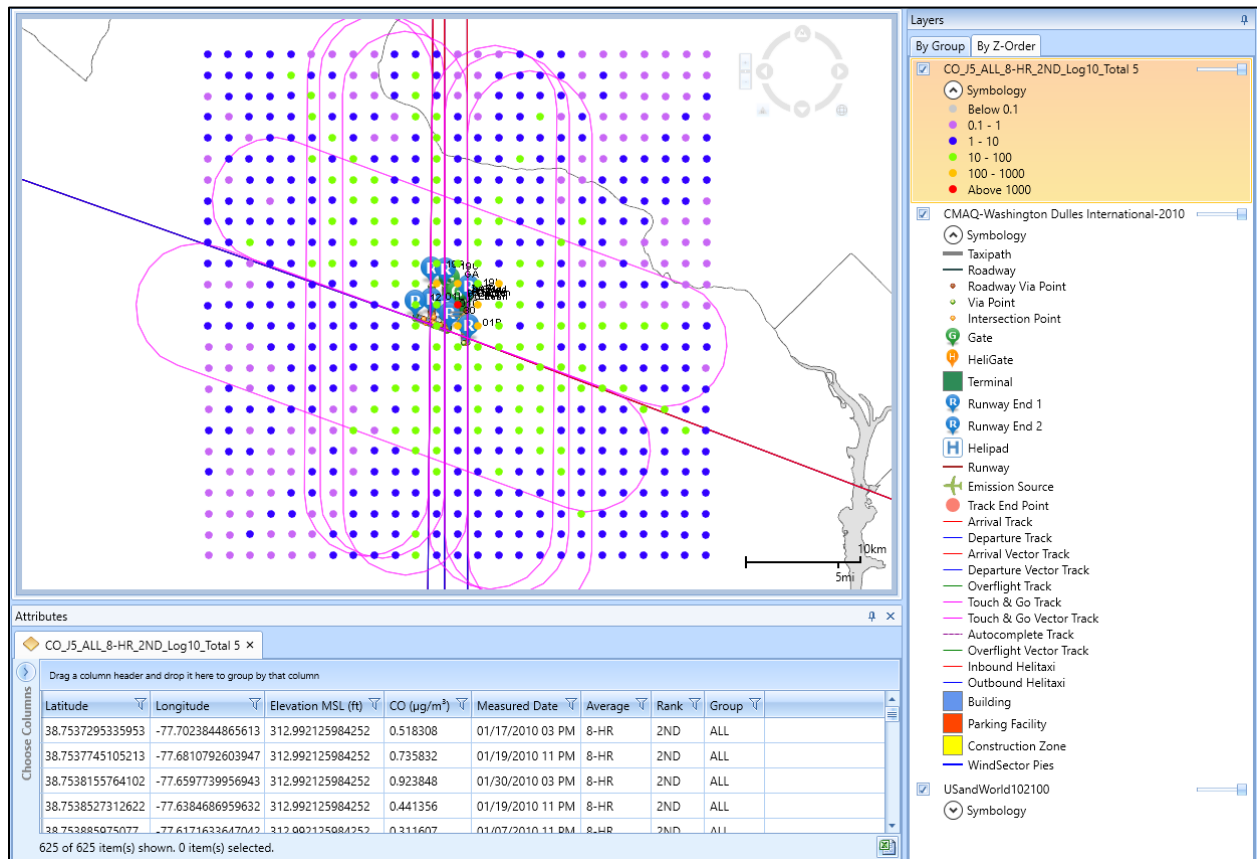

Figure 5-45 Sample Pollutant Concentration Layer with Attributes- Shown with Airport Layers
6. Click *OK* to generate and display the concentration layers on the map (Figure 5-45) and in the *Layers* manager.
The following attributes are available for all Pollutant Concentration Layers: latitude, longitude, symbology index, pollutant, measured date, average, rank, and group (Figure 5-45). See Appendix B.3 for descriptions of the attributes.